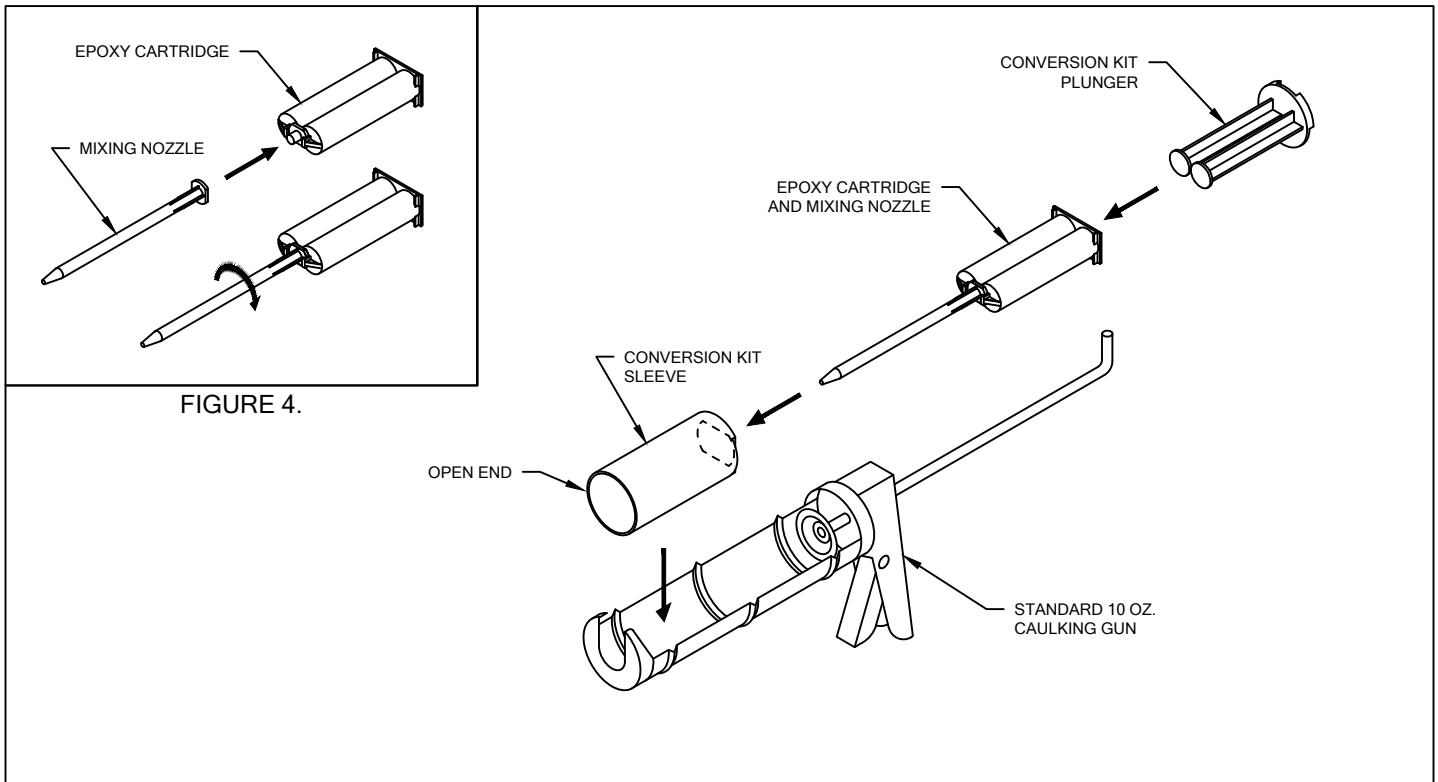

FIGURE 5.
CAULKING GUN CONVERSION KIT. REFER TO FIGURE 5.
3. PLACE THE CONVERSION KIT, WITH MIXER NOZZLE AND EPOXY CARTRIDGE, IN A STANDARD 10 OZ CAULKING GUN AS SHOWN IN FIGURE 5. PLUNGER WILL ATTACH TO CIRCULAR PUSH PLATE ON CAULKING GUN.